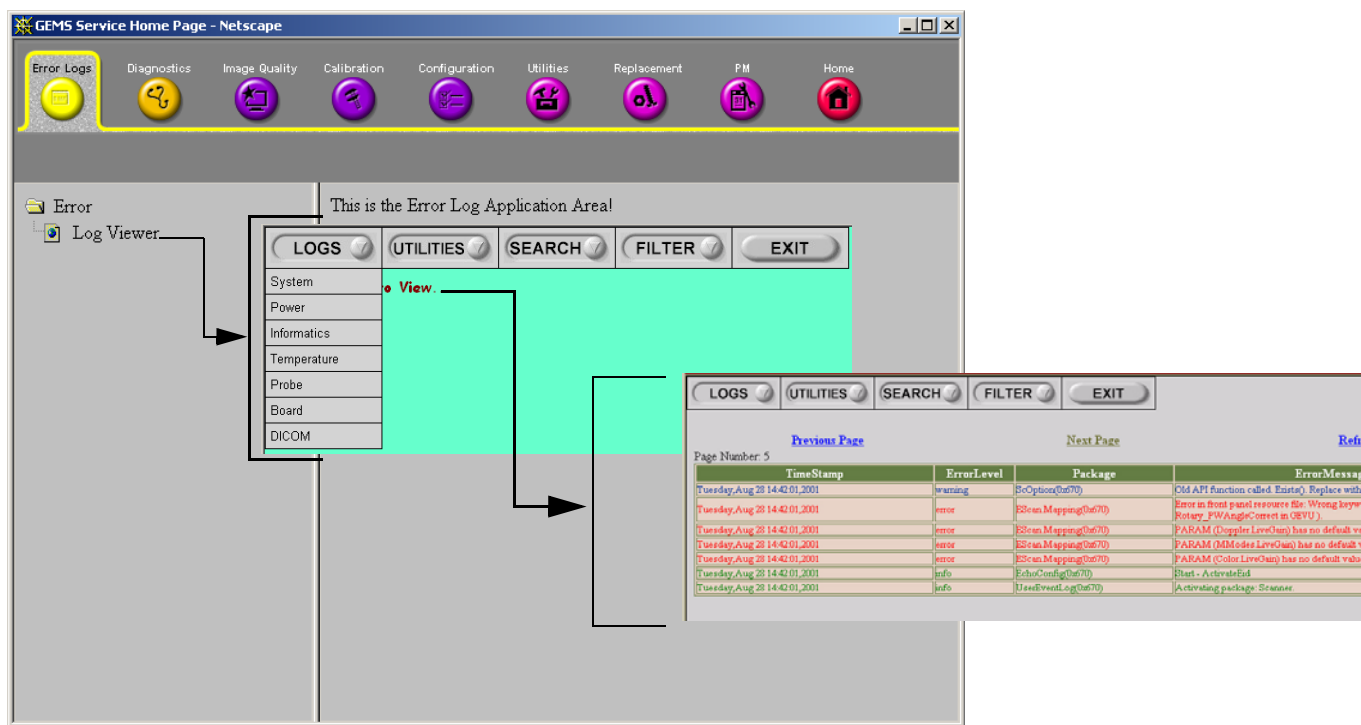

Figure 5-29 Log Viewer / Logs / Log Entries
*NOTE: Figure 5-29 provides a graphical example of the log entries for the **System Logs**.*